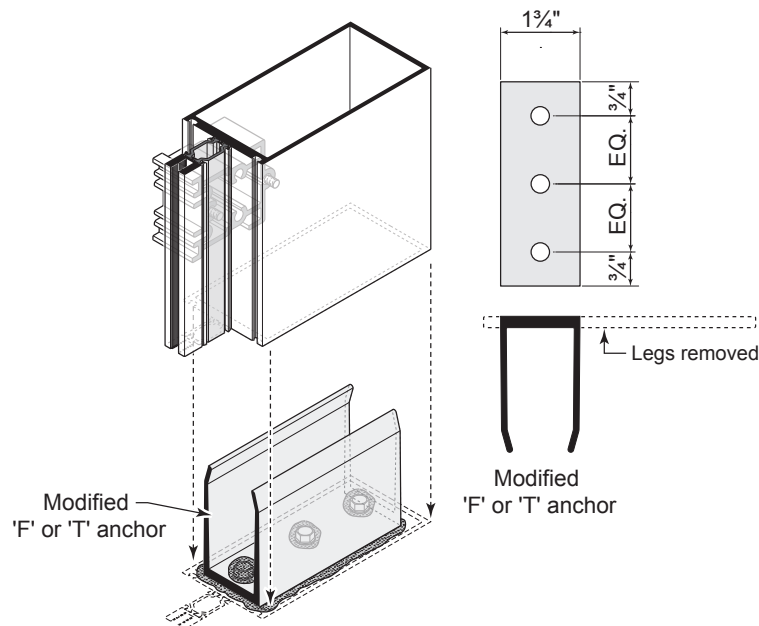

Fig. 56.1
- B. Curtain wall verticals and door subframes run to floor. Bed verticals in sealant and anchor to building per approved shop drawings. See **Fig. 56.1** for possible anchoring method.